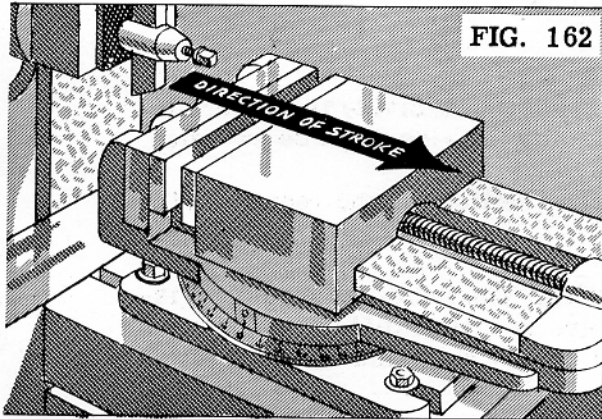

FIG. 162
2. Loosen the clamping nuts and set the jaws at 90° to the direction of the stroke (Fig. 162). The vise handle will then be toward the front and the zero marks on the vise will coincide with the zero marks on the base.